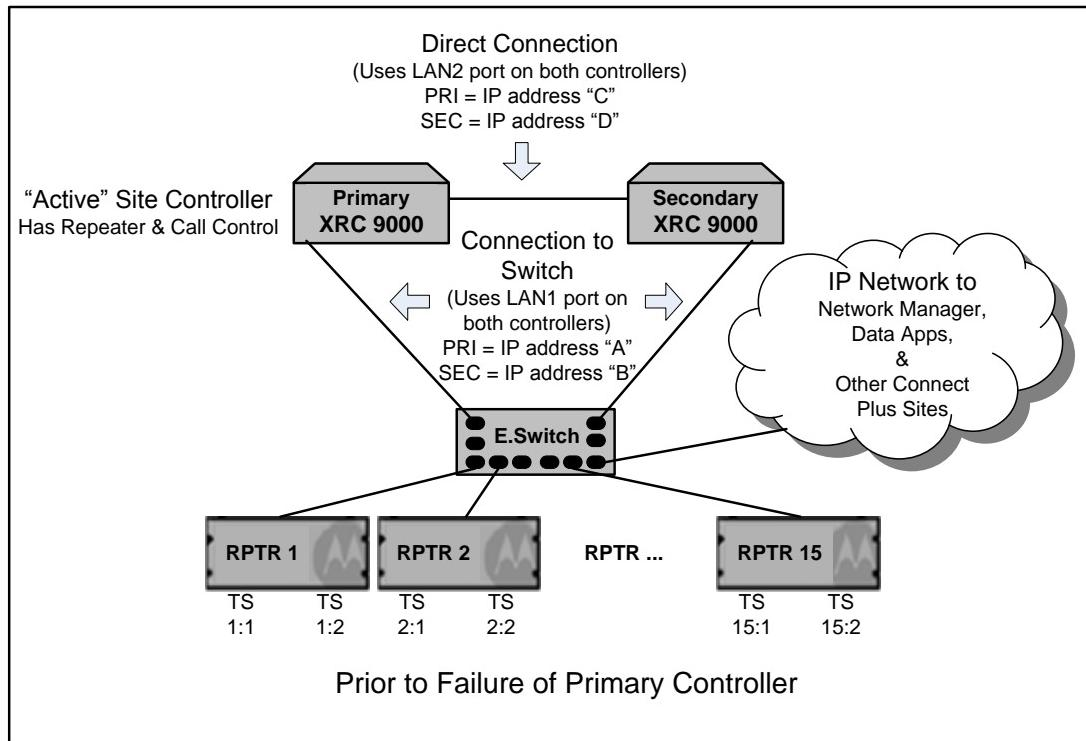

Figure 4-10 Redundant Controller Configuration with Primary XRC Active
4. The Network Settings screen requires a total of 4 static IP addresses (two for each controller), as depicted in Figure 4-10 and discussed in Table 4-6.